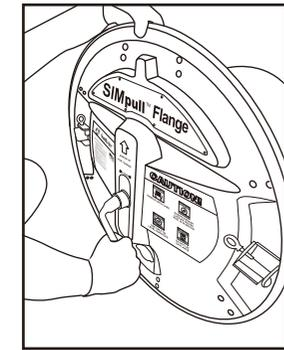

Fig. 5
3. Confirm the hub is tight by using 3/4" wrench turning 1/2 to 1 full revolution (Fig 5).